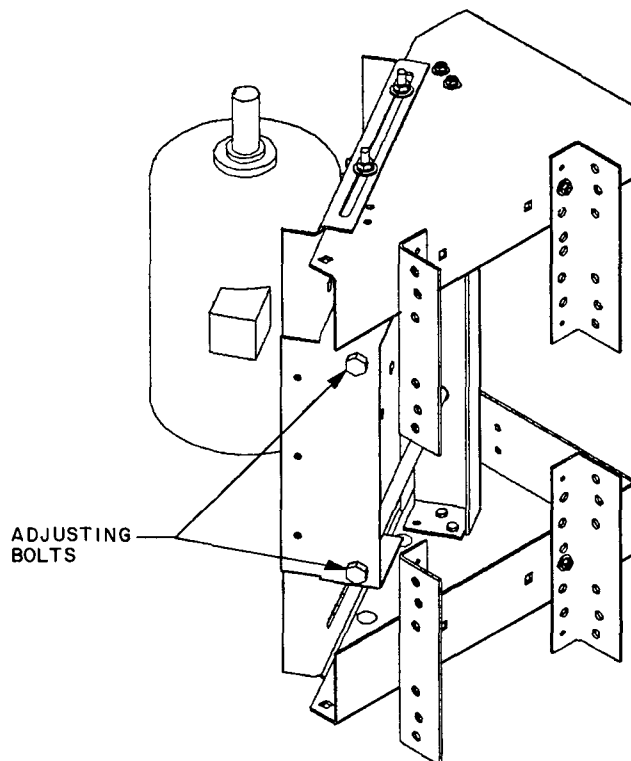

**Fig. 25 — Evaporator-Fan Adjustment — Models 48LJ, 50LW**
**EVAPORATOR-FAN MOTOR PLATE** — Adjust using a  $\frac{15}{16}$ -in. wrench on the bolts shown in Fig. 25 and 26. Turn the bolts counterclockwise to move the motor mounting plate toward the fan and loosen the belts; turn clockwise to move the plate away from the wheel and tighten the belts. Make the same number of turns to each bolt.